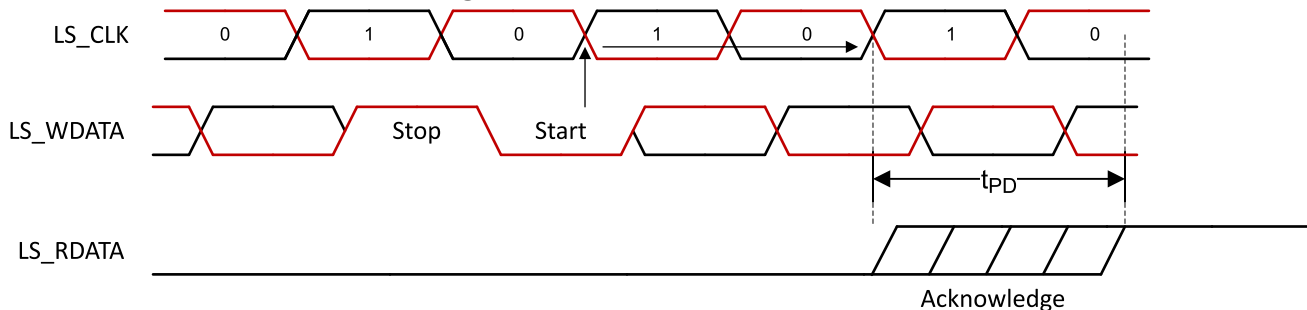

图 6-10. LPSDR Read Out
(1) Device electrical characteristics are over Recommended Operating Conditions unless otherwise noted.
(2) See 图 6-10 and 图 6-11